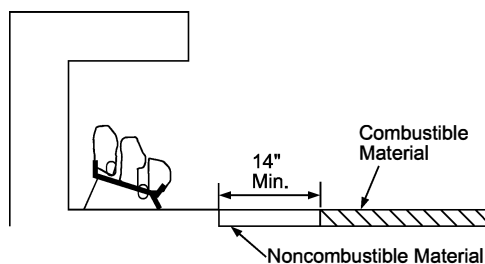

Figure 8 - Minimum Fireplace Clearances If Installed at Floor Level
- A.** If installing appliance on the floor level, you must maintain the minimum distance of 14" to combustibles (see **Figure 8**).